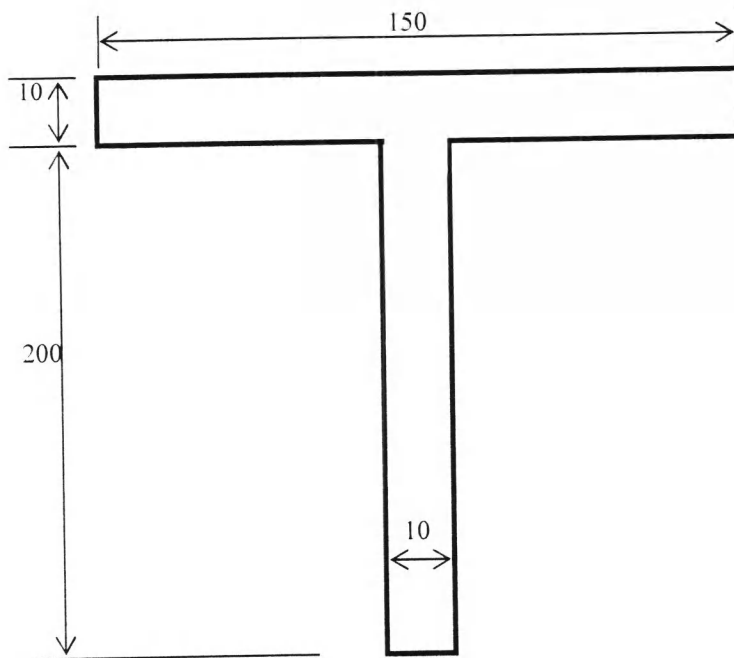

Figure 4
5. Determine the plastic modulus and the shape factor for the T section shown in Figure 4. The units are in mm. [3]